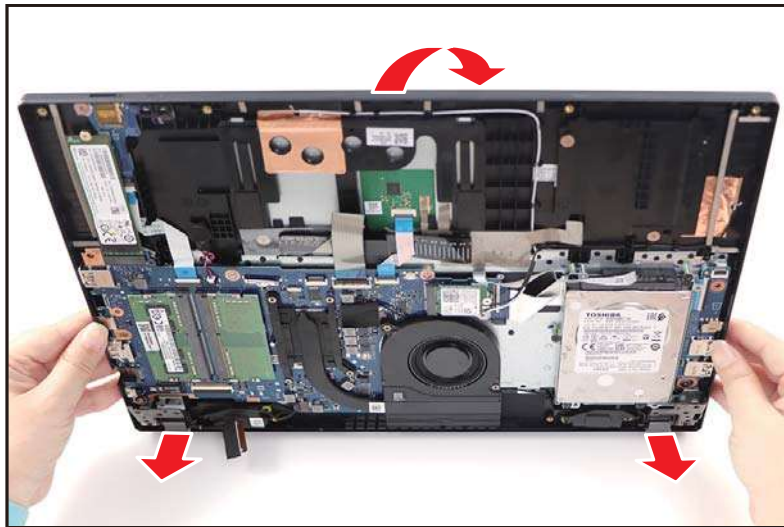

Figure 3-110. Replacing the LCD Module
1. By holding the top assembly upright, align the top assembly with the LCD hinges slots on the LCD module as shown in Figure 3-110.